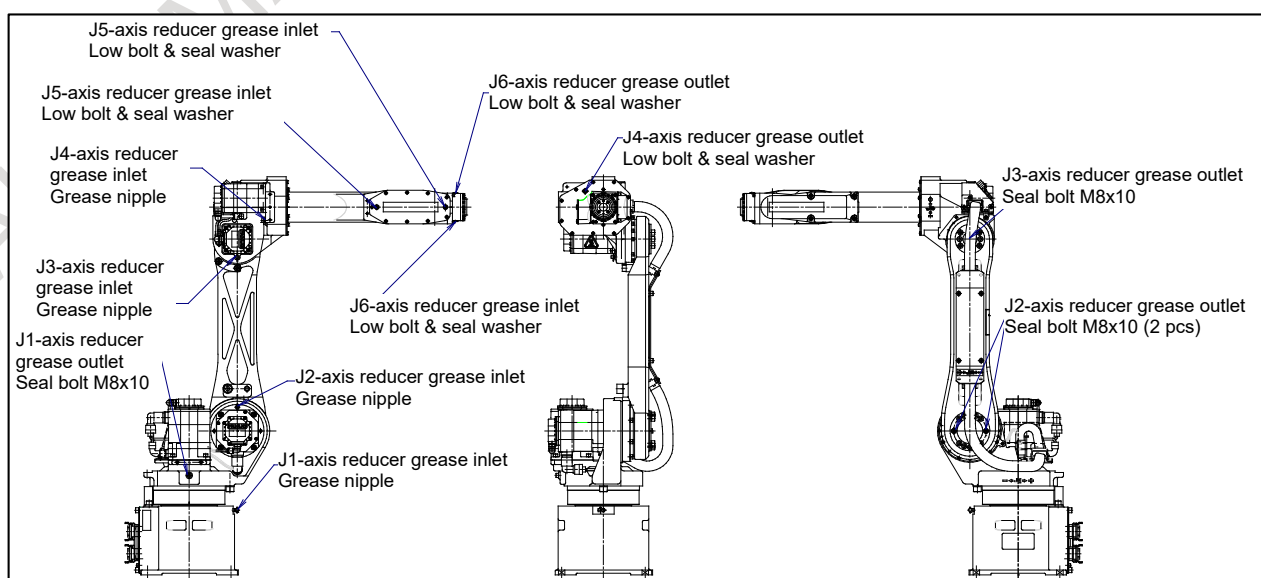

Fig. 3.1 (a) Greasing points
- See Fig. 3.1(a) and Table 3.1 (a) for greasing points and the method.
Follow the procedure stated below to replace the grease in the J1, J2, and J3-axis reducers and the J4 and J5-axis gearboxes at the intervals based on every 3 years or 11520 hours, whichever comes first. See Fig. 3.1 (a) for greasing points.
- 1) Remove the seal bolts from the J1, J2, and J3-axis grease outlets shown in Fig. 3.1 (a). Also remove the flat-bolts and sealing washers from the J4 and J5-axis grease outlets.